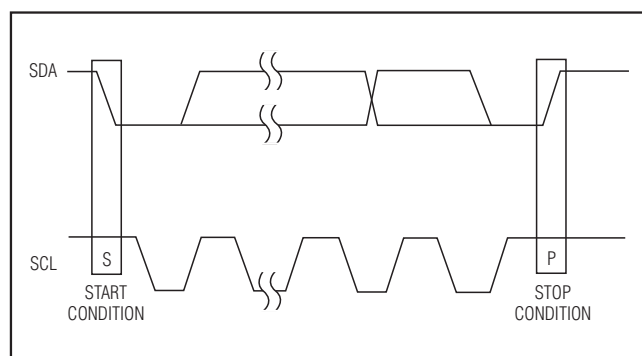

Figure 6. Start and Stop Conditions
Each transmission consists of a START condition sent by a master, followed by the MAX6621 7-bit slave address, plus an R/W bit, one or more data bytes, and finally a STOP condition (Figure 6). To write to a MAX6621 register, a write transmission consists of a START condition, followed by the MAX6621 7-bit slave address plus R/W = 0, a register address byte, one data byte, and finally a STOP condition. To read from a MAX6621 register, a combined write and read transmissions are required. The first write transmission consists of a START condition, followed by the MAX6621 7-bit slave address plus R/W = 0, a register address byte, and finally a STOP condition that sets the register to be read. The second read transmission consists of a START condition, followed by the MAX6621 7-bit slave address plus R/W = 1, one or more data bytes, and finally a STOP condition that reads the data from the
Both SCL and SDA remain high when the interface is not busy. A master signals the beginning of a transmission with a START (S) condition by transitioning SDA from high to low while SCL is high. When the master has finished communicating with the slave, it issues a STOP (P) condition by transitioning SDA from low to high while SCL is high. The bus is then free for another transmission (Figure 6).
P: I²C STOP CONDITION. SEE FIGURE 6.
S: I²C START CONDITION. SEE FIGURE 6.